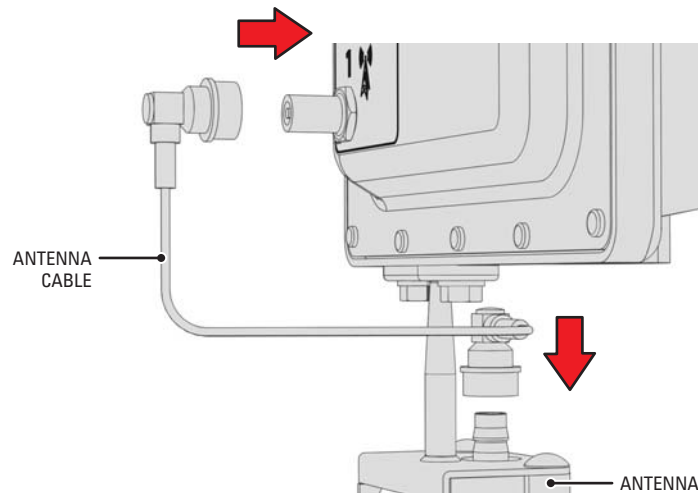

Figure 13. Connecting the Antenna Cable
- c. Connect the antenna cable to the integrated antenna and the EW5301T (refer to Figure 13).